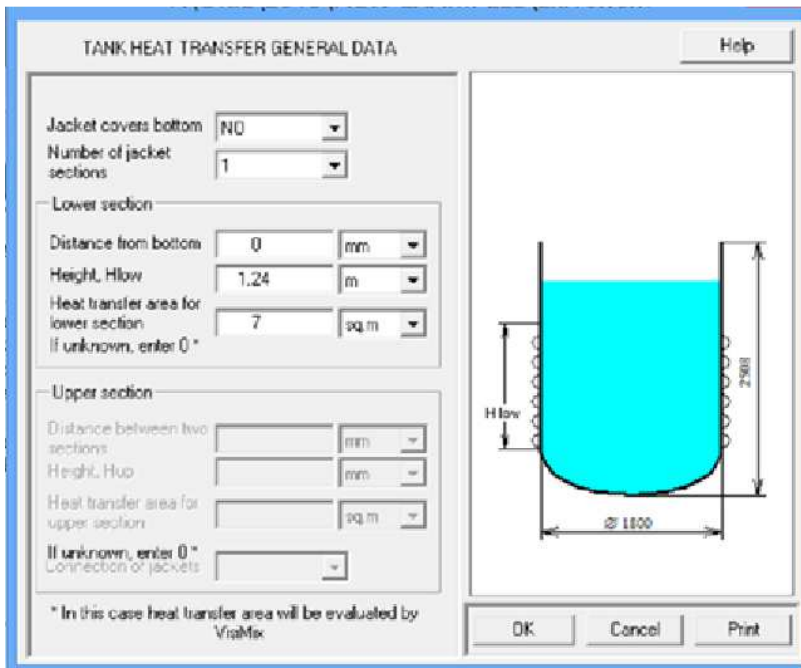

Figure 7.
4. Entering dimensions of the equivalent half-pipe jacket (Figs. 7,8).